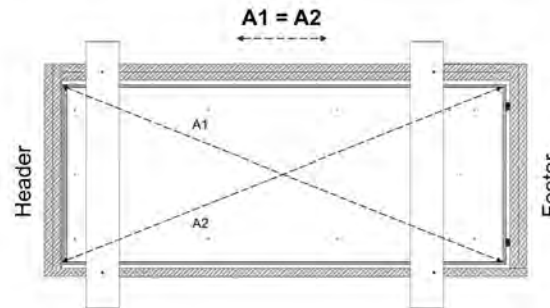

FIGURE 13 : SQUARING THE ATTIC LADDER
K. Before continuing, Installer #1 must measure the diagonals of the aluminum frame to ensure the attic is square. Diagonal measurements A1 and A2 should match within 1/8". See **Figure 13**. If not, your attic ladder door may not close properly. If measurements do not match, adjust the attic ladder moving the footer end side-to-side. This may require adjusting the shims. Be sure to keep the header/hinge end centered in the rough opening as you square the attic ladder. Use shims if necessary.